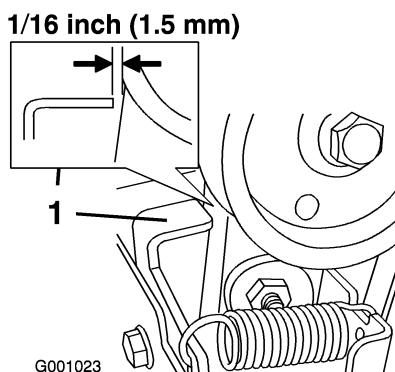

Figure 39
3. With the auger/impeller lever disengaged, ensure that the gap between the auger clutch assembly and the tab is $1/16$ inch (1.5 mm) (Figure 39).